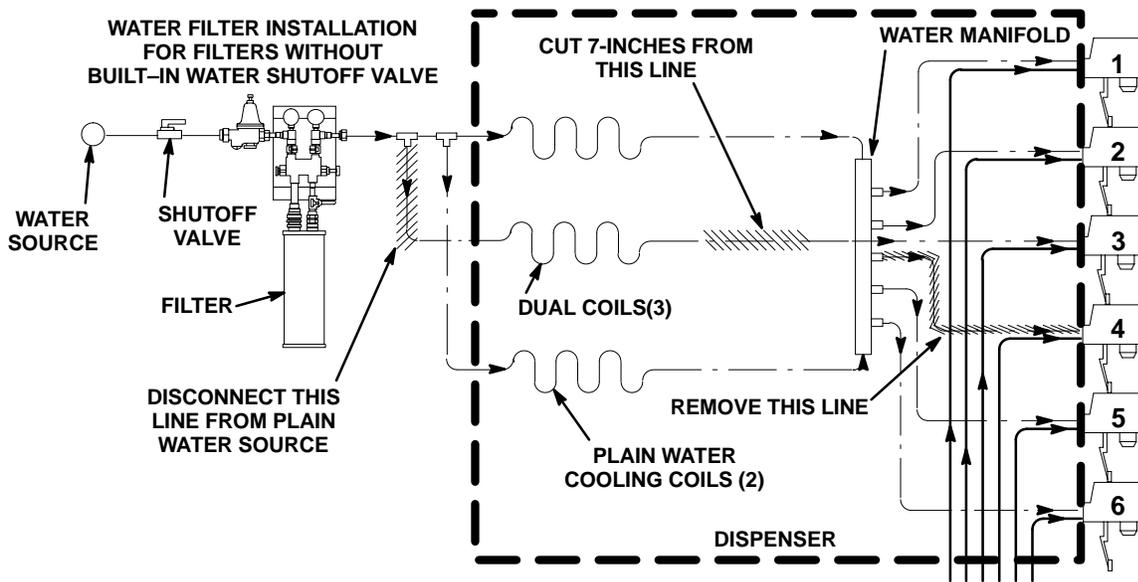
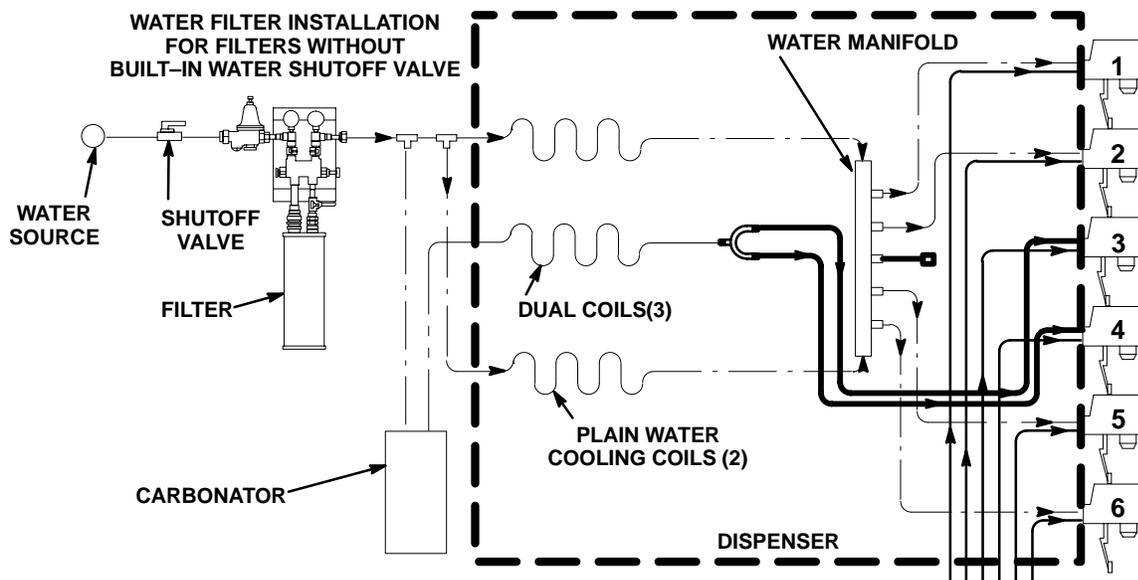

FIGURE 1.
FIGURE 2.
6. Locate the plain water cooling coil outlet line feeding No. 3 dispensing valve (see Figure 1 ).
7. Cut 7-inches from the plain water line feeding No. 3 dispensing valve as indicated in Figure 1 ).
8. Remove plain water line connected between the water manifold and back side of No. 4 dispensing valve mounting block as indicated in Figure 1 .
9. Connect long tube assembly with "Y" fitting on one end and an elbow fitting on the other end (provided in the kit) into the system (see Figure 2 ). The tube assembly in the flow diagram is shown in heavy dark lines. Secure connections with tubing clamps provided.
13. Connect short tube assembly, with stainless steel cap on it's end, to outlet on plain water manifold (see Figure 2) where water tube was removed in step 8.
15. Disconnect Dispenser plain water inlet line (see Figure 1) from plain water inlet source. Connect Dispenser plain water inlet line to a carbonated water source (see Figure 2). Attach "CO2 WATER" label to the water line.